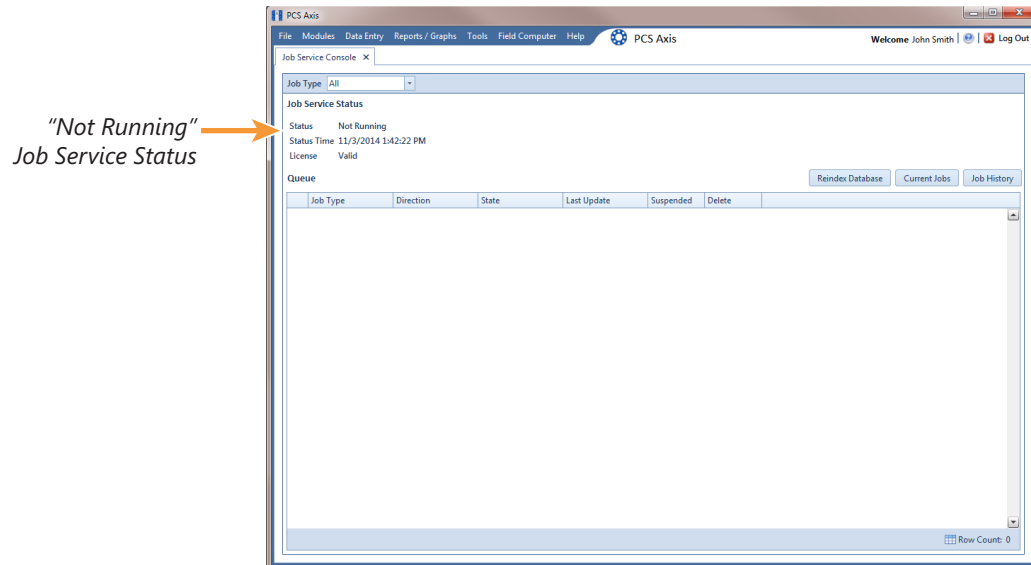

Figure 11-3. Job Service Status
If the message *Not Running* displays in the *Status* field of the Job Service Console as shown in the following figure (Figure 11-3), use the procedure in this section to restart the PCS Axis Job Service. PCS Axis Job Service monitors the job queue, initiating jobs as they become available.
- c In PCS Axis, verify the message *Running* displays in the *Status* field of the Job Service Console (Figure 11-3, page 568).